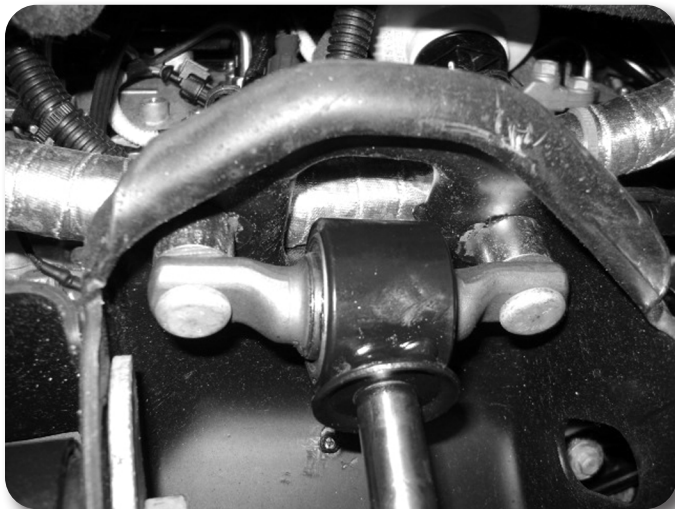

Figure 2
9. Remove the upper shock nuts and lower shock bolt. Remove shocks from vehicle. Installing longer aftermarket replacement shocks with the spacer on top of the bar pin. Attach shock to the upper mount with new 12mm nuts and washer tighten upper mount to 55 ft-lbs, lower mount to 95 ft-lbs. **Figure 2**